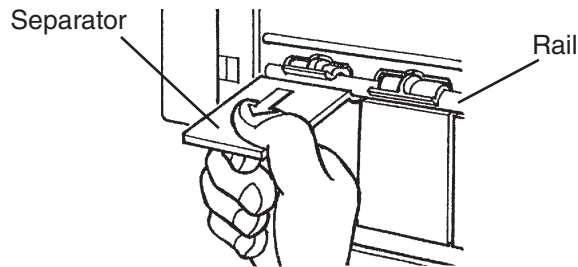

**Fig. 45**
- 13) Position and lock the ice chute onto the front and rear frame pipes by pushing the ice chute down until it clicks onto both frame pipes. See Fig. 45.